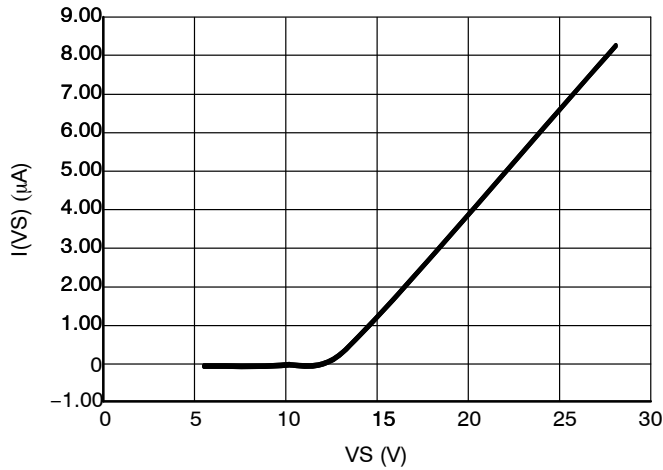

Figure 13.  $I(VS)$  Standby Current vs.  $VS$  at 25°C
- Refer to Figures 13 and 18 for the VS standby current behavior.